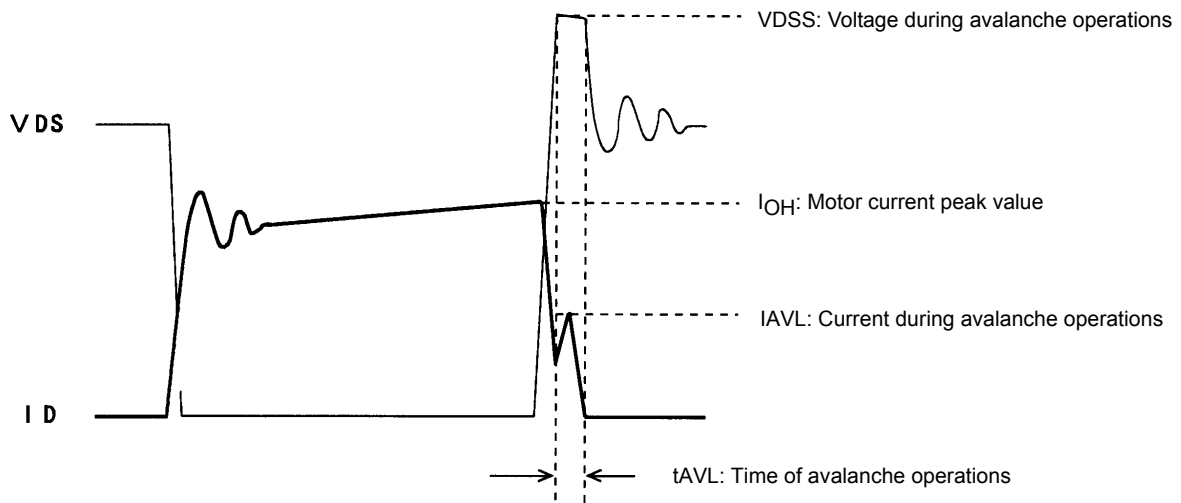

Figure 1. Output Current, I_D , and Voltage, V_{DS} , Waveforms 1 of the STK672-7** Series when Driving a 2-Phase Motor with Constant Current Chopping
When driving a 2-phase Stepper motor with constant current chopping using an STK672-7** Series IPM, the waveforms shown in Figure 1 below result for the output current, I_D , and voltage, V_{DS} .
Although the waveforms during avalanche mode are given in Figure 1, sometimes an avalanche does not result during actual operations.
- Increases in V_{DS} , t_{AVL} , and I_{AVL} in Figure 1 due to an increase in the supply voltage from 24 V to 36 V.